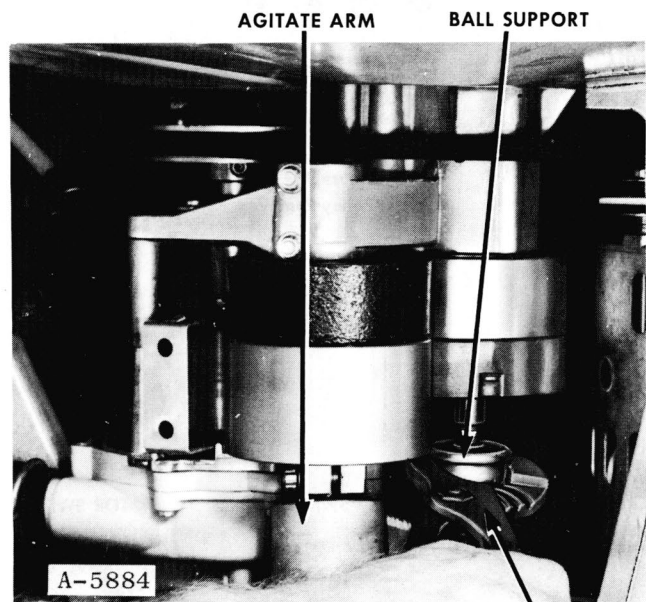

Figure 101 CHANNELOCK PLIERS
1. Remove the ball support from the agitate shaft, Figure 101.
1. Disconnect the ball support from the agitate shaft. Fig. 101, Procedure FF.